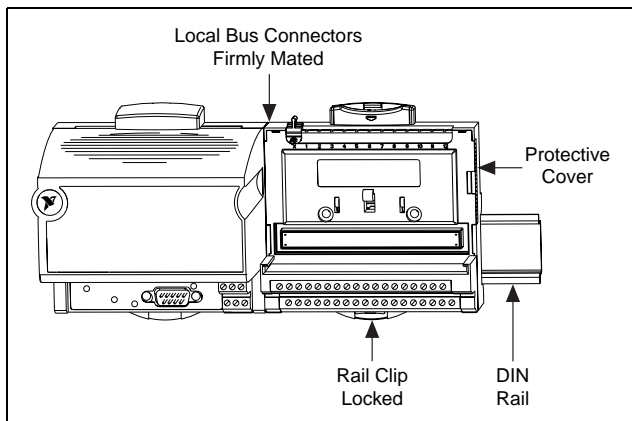

Figure 3. Installed Network Module
4. Add terminal bases to the DIN rail with their local bus connectors firmly mated to the FP-3000 local bus connector. The FP-3000 is shipped with a protective cover in the bag of accessories. Place the protective cover over the local bus connector of the last terminal base in the bank. Figure 3 shows an installed FP-3000 network module.